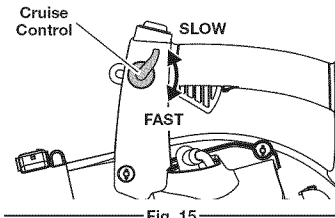

Fig. 15
1. Move the variable speed cruise control toward the FAST position to incrementally increase or maintain the unit's engine speed (Fig. 15). When the variable speed cruise control is pressed, the trigger will recede into the handle.
2. To decrease engine speed, move the variable speed cruise control to the SLOW position and the trigger will return to idle (Fig. 15).